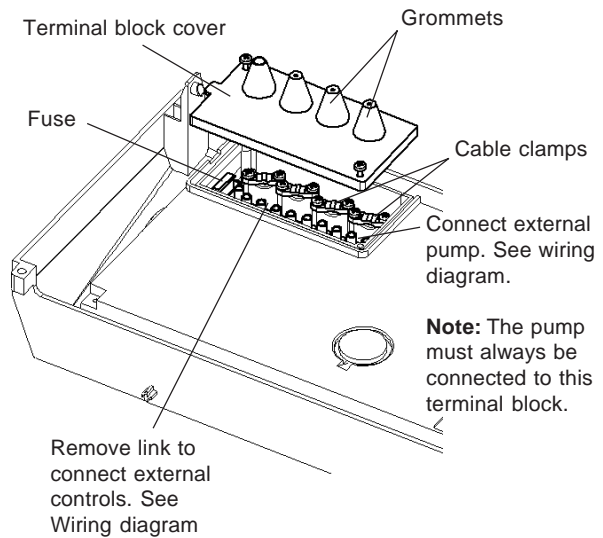

Fig. 20
4.8 CONNECT THE MAINS SUPPLY - Fig. 20
Remove the two screws securing the terminal block cover from the back of the control box (see Fig. 20). Pass the mains supply cable through the grommet and cable clamp and connect as follows:- Brown to L, Blue to N and Green/Yellow to \perp . Ensure correct polarity.